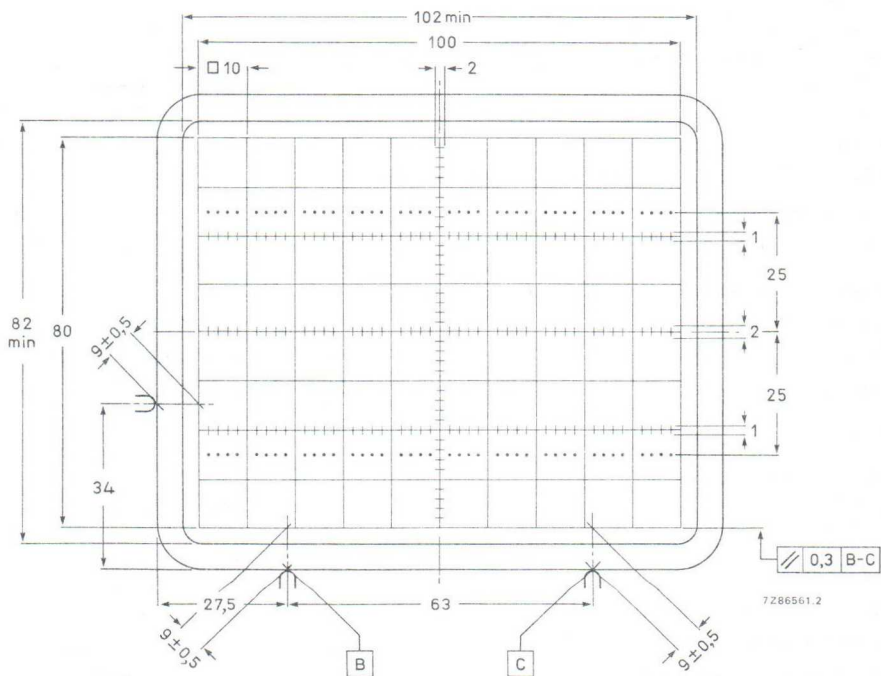

Fig. 4 Front view of tube with internal graticule, type 93.
- (1) Dimensions of faceplate only. The complete assembly of faceplate and cone (frit seal included) will pass through an opening of 122 mm x 102 mm.
- (2) The coil is fixed to the envelope with resin and adhesive tape.
- (3) The length of the connecting leads of the rotation coil is min. 350 mm.
- (4) Reference points on faceplate for graticule alignment (see Fig. 4).
The internal graticule is aligned with the faceplate by using the faceplate reference points, see Fig. 4. See also note 1.
1. As the frit seal is visible through the faceplate, and not necessarily aligned with the internal graticule, application of an external passe-partout with open area of max. 102 mm x 82 mm is recommended. The internal graticule is aligned with the faceplate by using the faceplate reference points (see Fig.4).